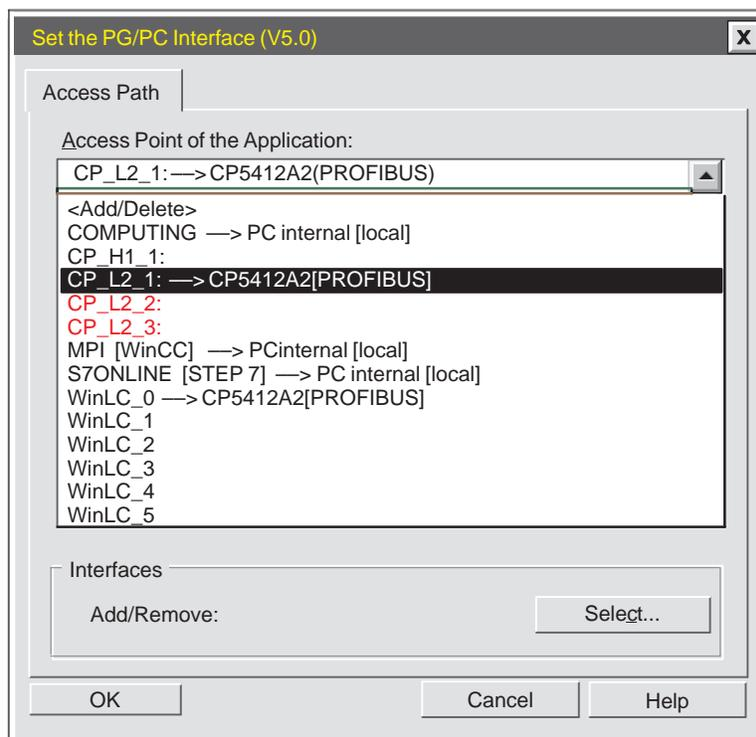

Figure 2-2 Setting the Access Point of Application
1. Using the drop-down list box for the “Access point of application” field, select the CP_L2_1 as the access point. See Figure 2-2.